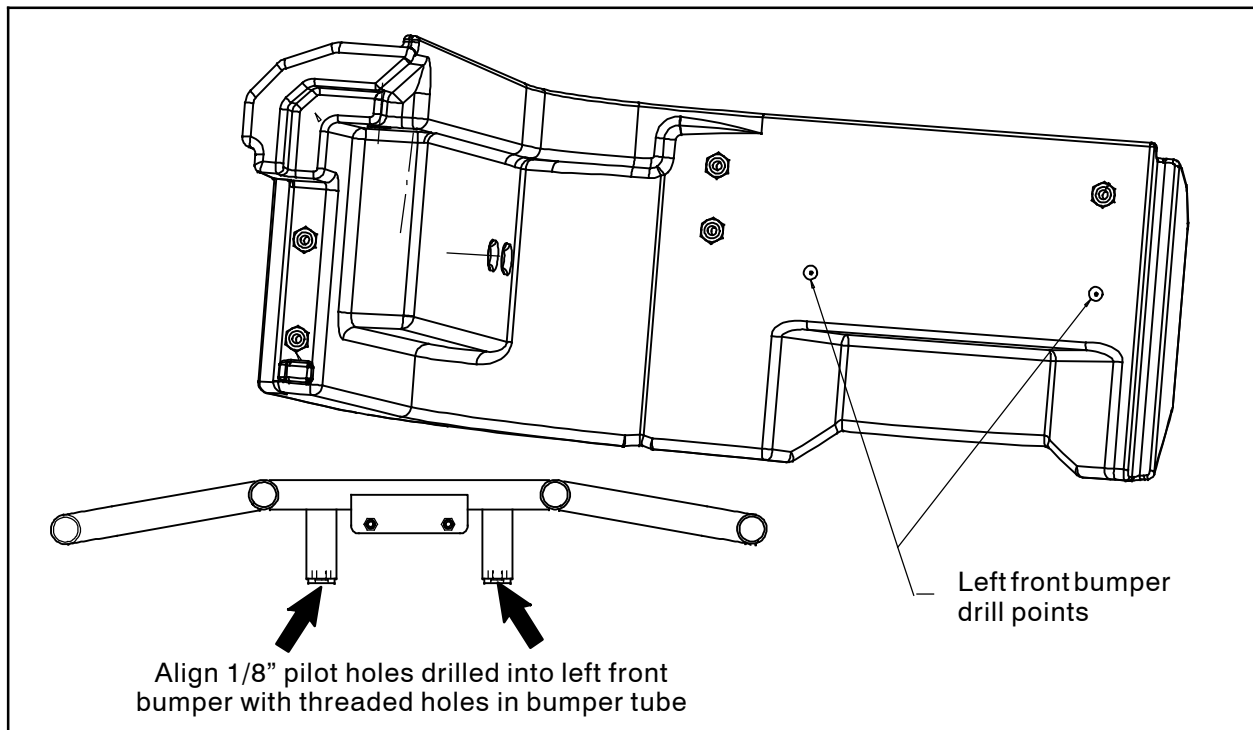

FIG. 2
3. Position the drill perpendicular to the back of the left front bumper and drill a 1/8" pilot hole through the two drill points located on the back of the left front bumper and through the front of the bumper. (Fig. 2)
4. Hold the bumper tube (1) up to the front of the left front bumper. The 1/8" pilot holes in the front of the left front bumper must align with the threaded holes in the bumper tubes. (Fig. 2)